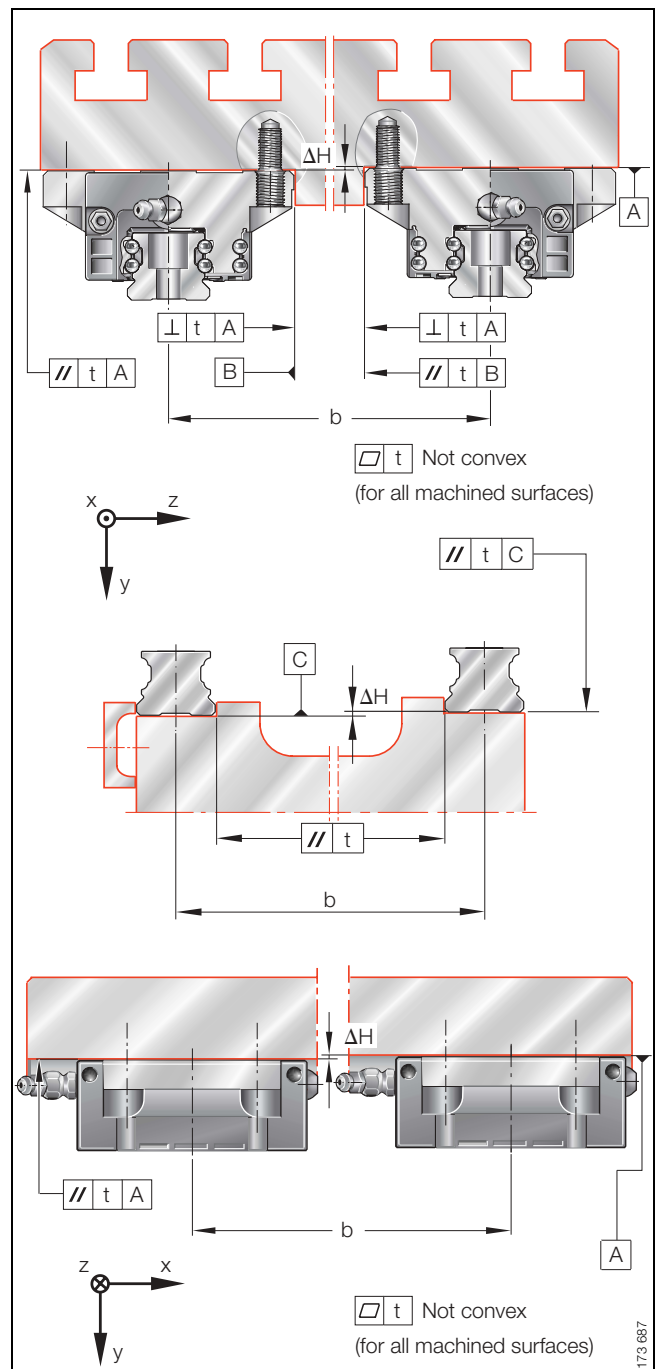

Figure 6 · Tolerances of mounting surfaces and parallelism of mounted guideways
- The tolerances in Figure 6 and Table 5 must be adhered to
The permissible values for ΔH (Figure 6) are given by the formula below. If larger deviations are present, please consult the INA engineering service.
For guideways arranged parallel to each other, the parallelism value t given in Figure 6 and Table 5 should be adhered to.